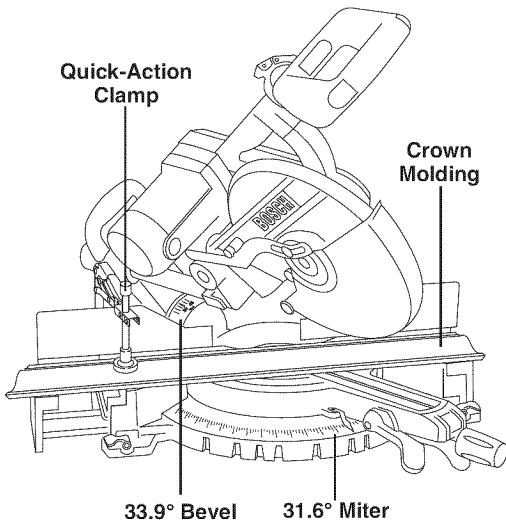

Figure 35. Crown Molding Laying Flat
- For 90° corner, set the bevel and miter angles using Charts below. Tighten the miter lock knob and the bevel lock lever (Figure 35).